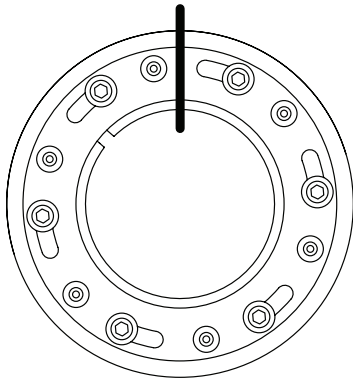

Figure 2. Mark face of external nut and adapter.
4. **Mark a line on the adapter and external nut to be used as a location reference – see Figure 2. This is a critical point and represents the location of the nut assembly before the socket head cap screws are tightened.**